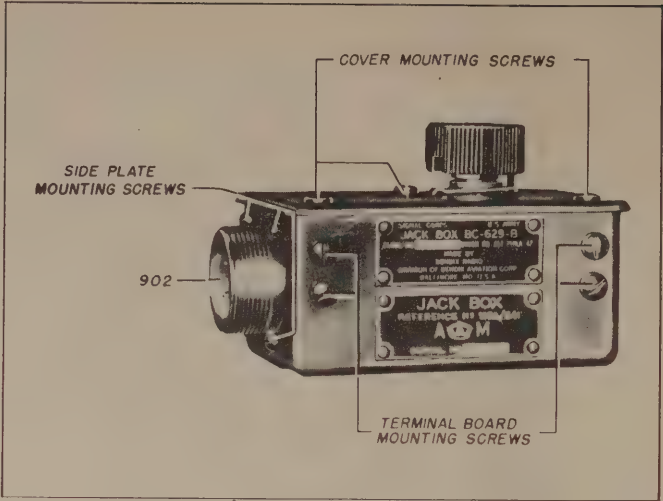

Figure 1-8. Jack Box BC-629-B
(1) The jack boxes shown in figures 1-8 and 1-9 provide for the connections for the microphones and head-sets. Terminal lugs and wiring information are provided inside the removable covers.
(2) The jack boxes are housed in metal cases with volume controls mounted on the top. A socket is mounted on the side-plate of Jack Box BC-629-AM and BC-629-B while a rubber grommet is provided on the side-plate of Jack Box BC-631-A and BC-631-B.